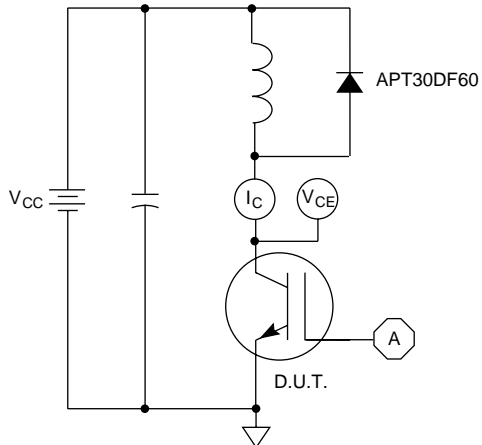

Figure 21, Inductive Switching Test Circuit
⑤ E_{on2} is the clamped inductive turn-on energy that includes a commutating diode reverse recovery current in the IGBT turn-on switching loss. A Combi device is used for the clamping diode as shown in the E_{on2} test circuit. (See Figures 21, 22.)
⑥ E_{off} is the clamped inductive turn-off energy measured in accordance with JEDEC standard JEDS24-1. (See Figures 21, 23.)